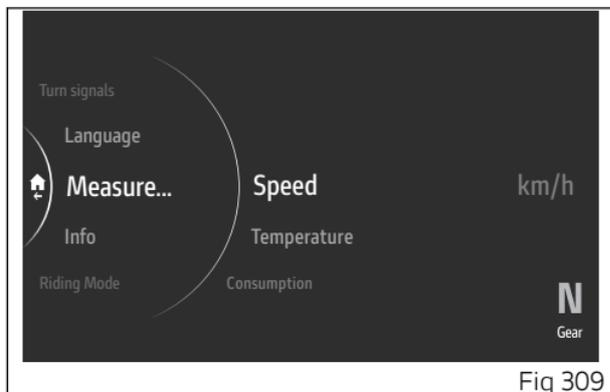

Fig 309
- Select the "Speed" item and press ENTER (Fig 309).